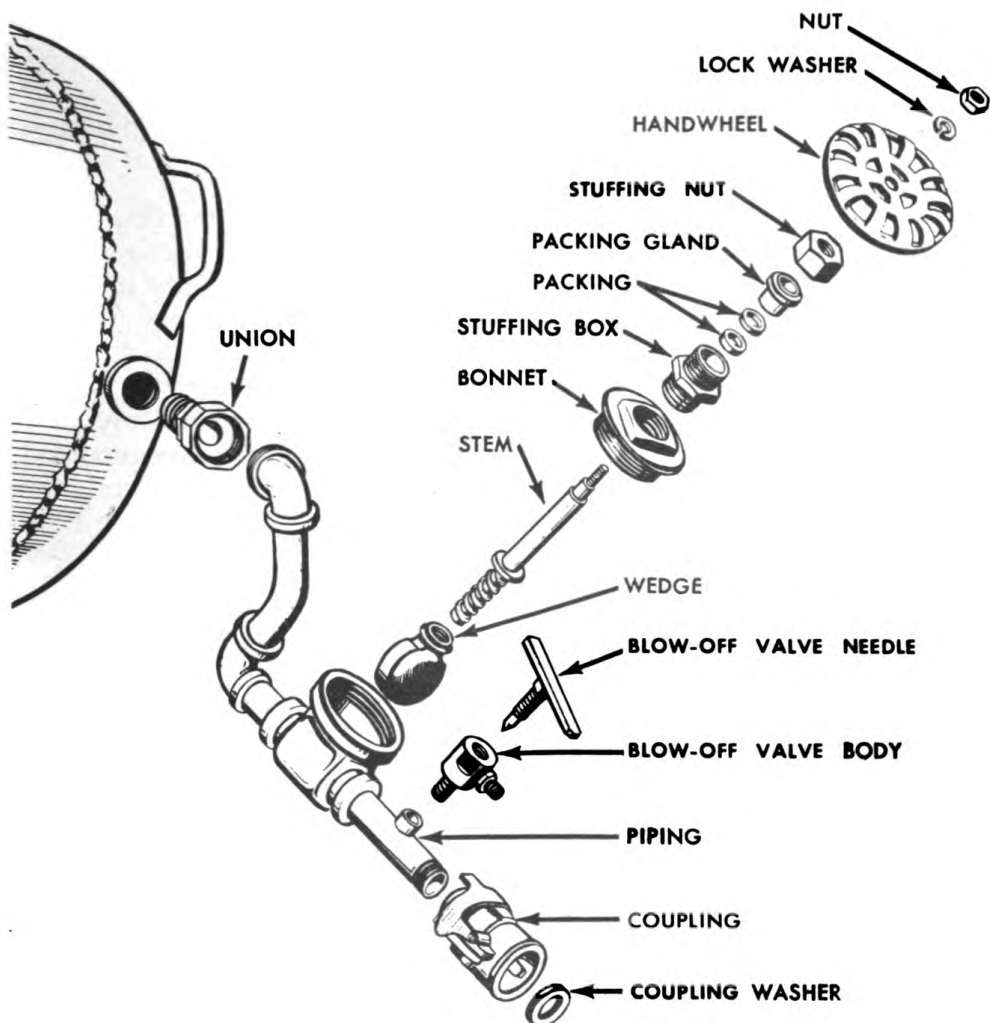

Fig. 60. Fuel outlet piping. (Exploded view of fuel container valve and blow-off valve.)
- d. Maintenance. (1) If fuel outlet valve becomes defective, disassemble and replace parts as necessary (fig. 60). Do not attempt to remove valve body from fuel outlet piping (connections of fuel outlet piping and fuel container valve body are lead soldered).
- (2) Do not attempt to disassemble coupling. If coupling is defective, replace coupling as a unit. Replace the synthetic rubber washer as required.
- (3) If leaks develop in blow-off valve, disassemble as shown in figure 60. Replace parts as required.